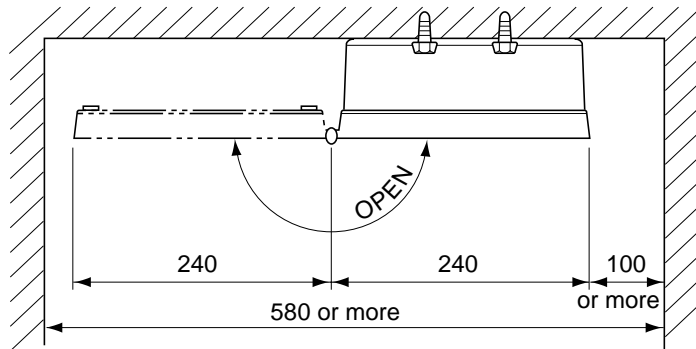

Fig. 2-1 Installation space (top view)
- ① Ambient temperature does not exceed a range of -10°C to $+60^{\circ}\text{C}$. When installing outdoors, attach a shade or put the converter in an outdoor panel to protect it from direct sunlight.
- ② Not exposed to moisture. Even an immersion-proof type is not protected against entry of water. Make arrangements so that water can be drained quickly.
- ③ Not exposed to dust or corrosive gases.
- ④ Free from vibrations and shocks.
- ⑤ Space shown in Fig.2-1 is available for easy inspection and adjustment.